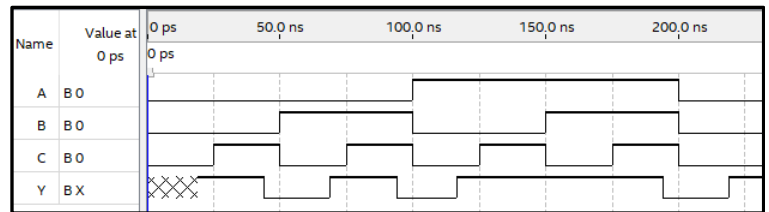

Figure 11: Output of Timing Simulation
f. Zoom in on the window. You should see something like Figure 11.